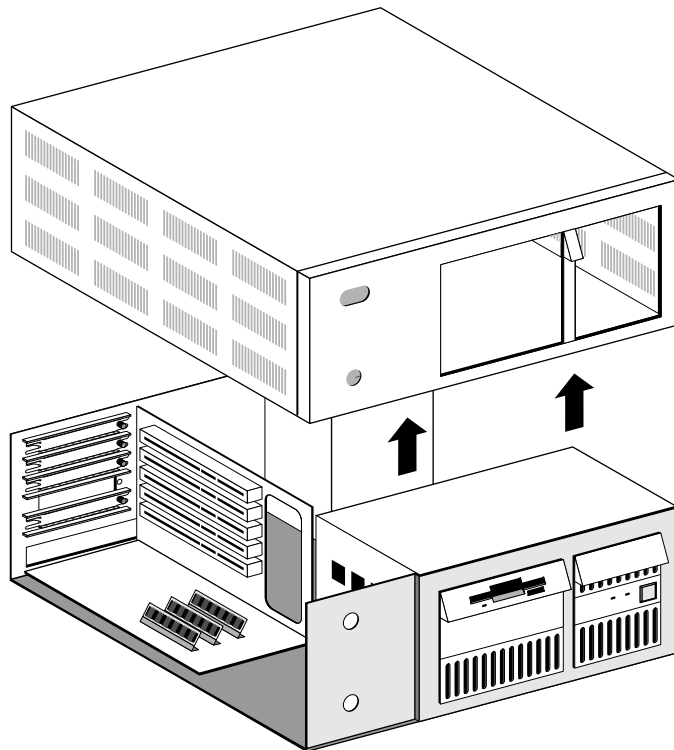

Figure 1-1. Removing the Cover
5. Remove the computer's cover and choose an expansion slot (see Figure 1-1).